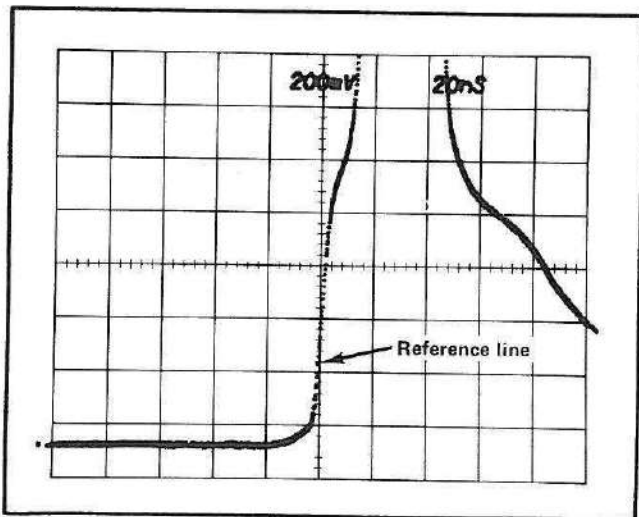

Fig. 5-4. TIME-DISTANCE Dial accuracy check. A 1 μ s period marker is shown.
c. Adjust the FINE control to place a marker on graticule line 5. See Fig. 5-4 for this waveform.